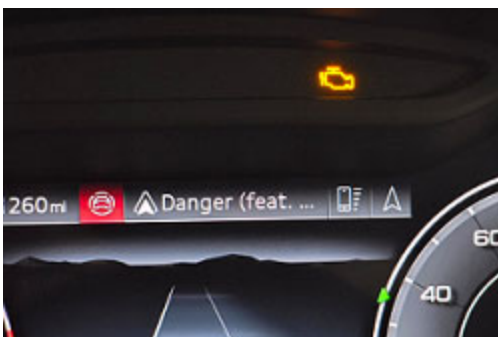

Figure 1. MIL is illuminated.
- The engine warning lamp (MIL) is on (Figure 1).